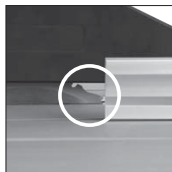

Fig. 39
- Adjust and align the back of the rip fence faceplate with the front of the saw blade. (Fig. 39) This setting will afford clearance for the material as it passes through the saw blade. It will allow the cut material to move sideways away from the saw blade, with little risk of any binding or kickback occurring.